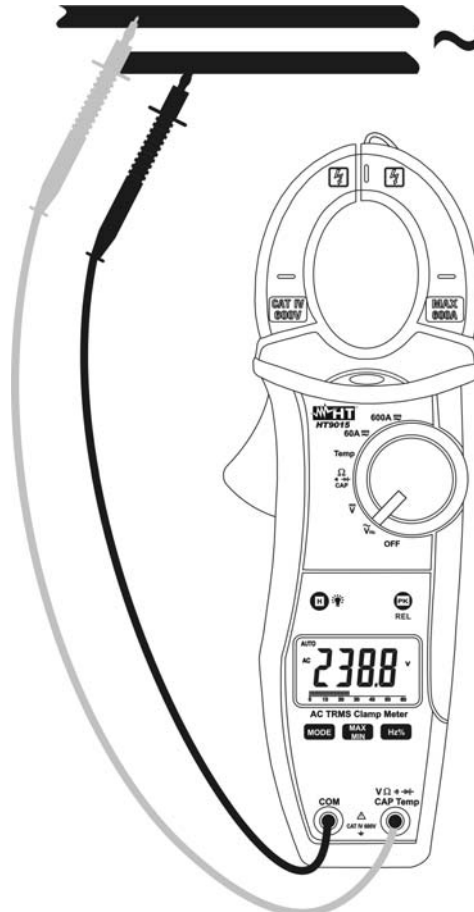

Fig. 3: Taking AC voltage measurements
3. Insert the red test lead plug into **V Ω HzTemp** jack and the black test lead plug into **COM** jack (Fig. 3)